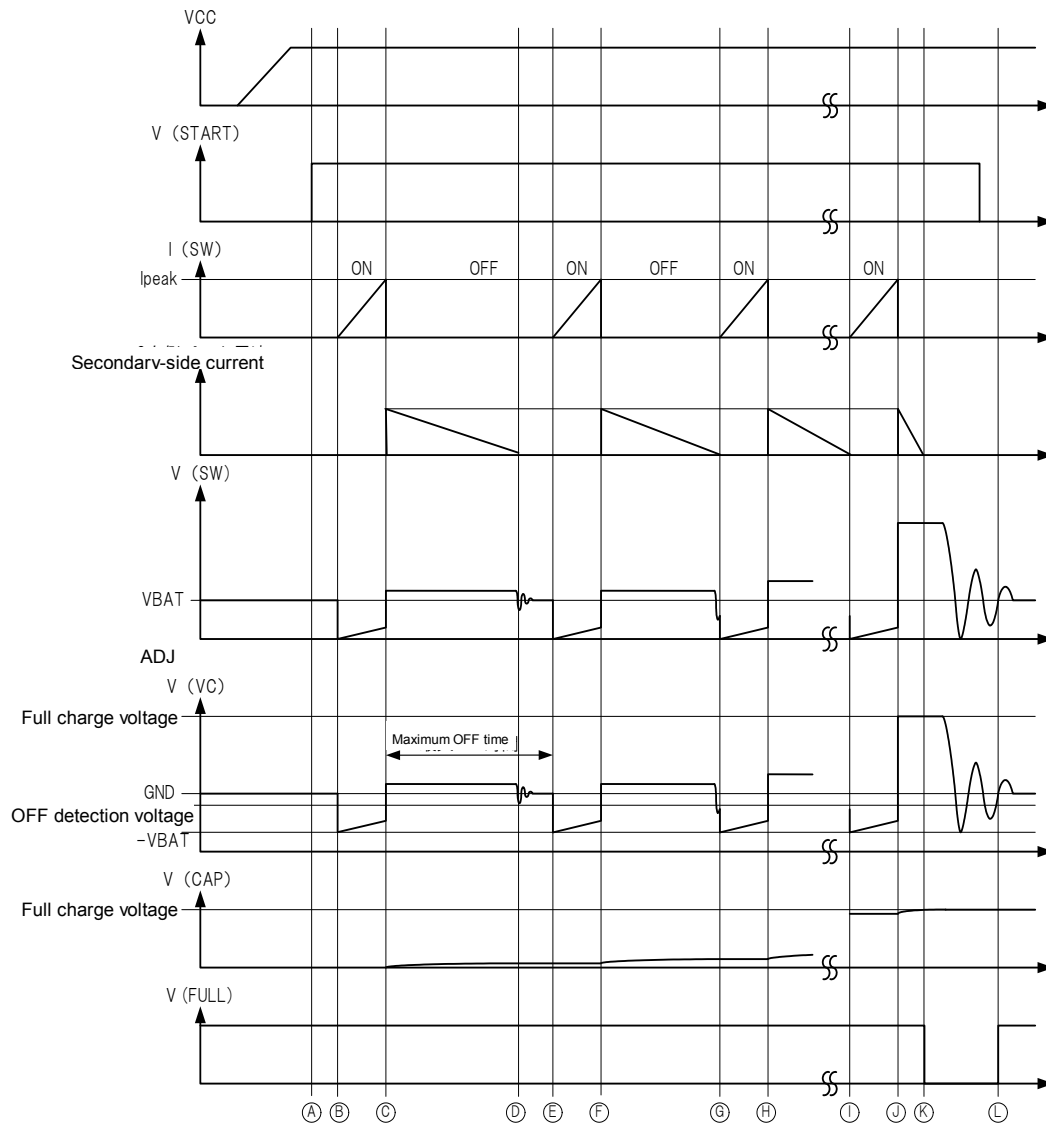

Fig 32. Timing Chart 2: Switching Operation
The switching operation of this IC is shown in Fig.32 Timing Chart 2.
If the START pin is set to "H", all internal circuits are reset, the internal PowerTr is turned ON. (See Fig 32. Time ①→②.) While the internal PowerTr is turned ON, a current is passed into the SW pin. When the current specified at the RADJ pin voltage is reached, the PowerTr is turned OFF. (See Time ③ in Fig 32.) The time t_{ON} when the PowerTr is ON is indicated as follows:
When the energy release to the transformer secondary-side is completed, the VC pin voltage and the SW pin voltage produce resonance by the parasitic capacitance and the transformer inductance. (See Time ⑩ in Fig 32.) At this time, unless the VC pin voltage becomes the GND voltage or less shown, the PowerTr remains OFF till the maximum OFF time is reached. (See Time ⑪ in Fig 32.) As soon as the OFF detection voltage or less is reached, the PowerTr is turned ON. (See Time ⑫ in Fig 32.) The time, t_{OFF} when the secondary-side releases energy is represented by the following equation:
When it is detected that the internal PowerTr is left OFF for over the maximum OFF time specified in the electrical characteristics, the PowerTr is forced to be turned ON. This occurs unless the VC pin voltage becomes the OFF detection voltage specified in the electrical characteristics or less. (See Time ㉛ in Fig 32.)
VC pin node is divided by between transformer Secondary node and Fast recovery diode anode side by resistor R_{FB1} , R_{FB2} and R_{FB3} . When VC pin voltage reach until full charge voltage as Fig.32 timing chart ⑪~⑬, charge is stopped.